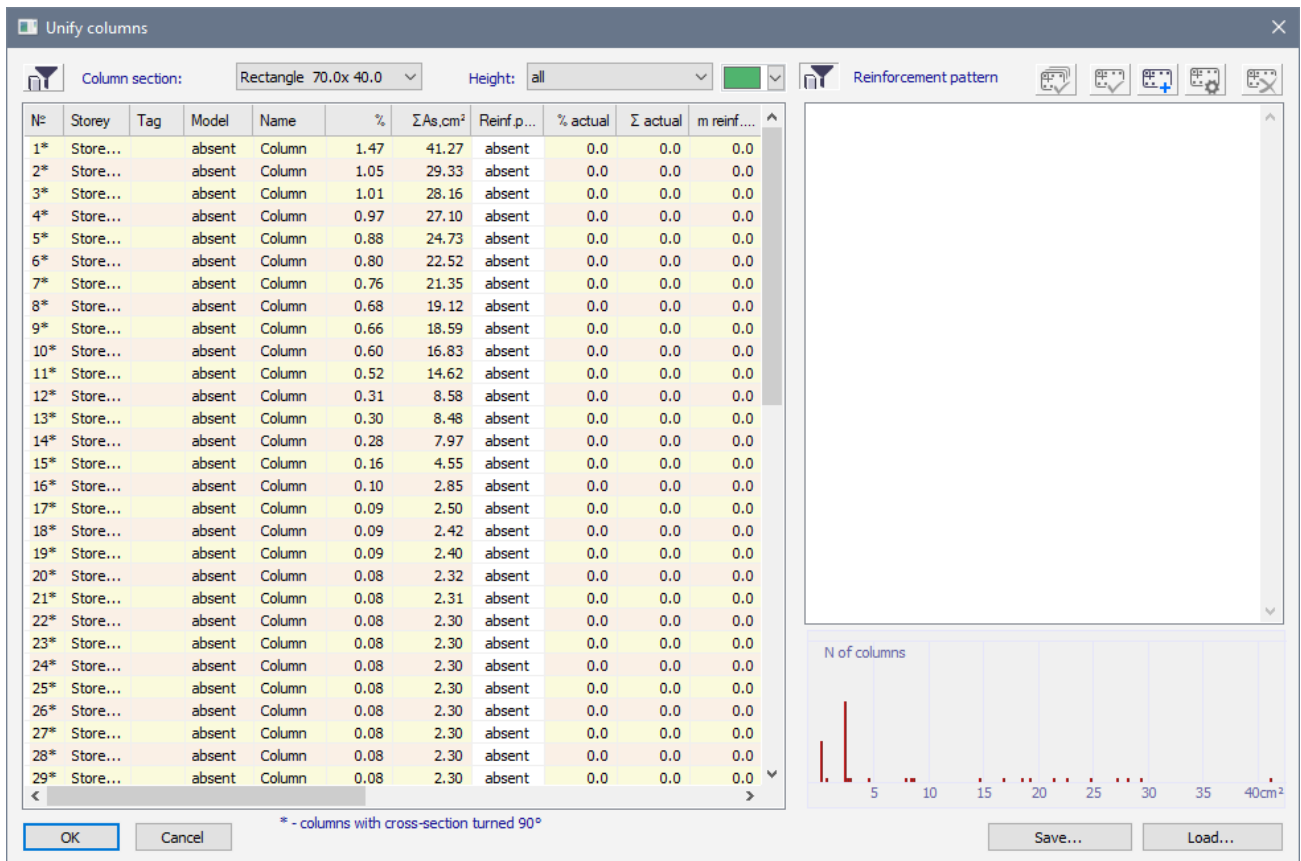

Figure 27.3. **Unify columns** dialog box
- ⇒ In the **Unify columns** dialog box (see Fig.27.3), to hide the table columns with the same values, right-click the column list in the dialog box and select the **Symmetric reinforcement** command on the shortcut menu.